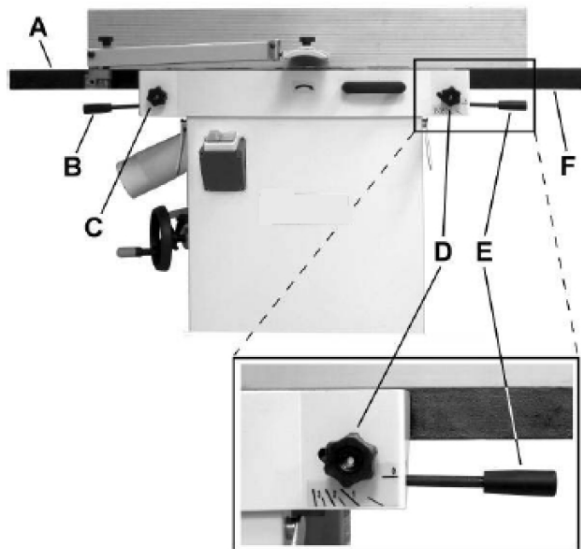
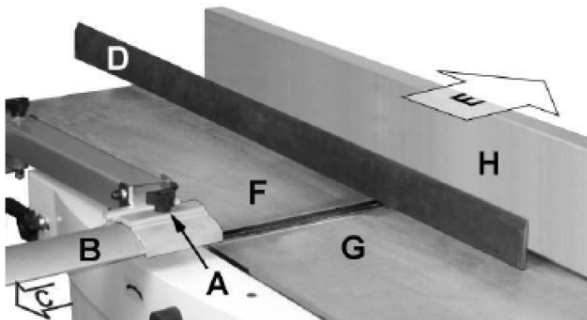

Fig. 9: Thicknesser
Fig. 11: Table setting
Lock knob (Pos. C, Fig. 9) and lifting handle (Pos. B, Fig. 9) control the height adjustment of the outfeed table (Pos. A, Fig. 9). The outfeed table is initially adjusted at the factory and should not be repositioned except during certain adjustments.
Lock knob (Pos. D, Fig. 9) and lifting handle (Pos. E, Fig. 9) control the height adjustment of the infeed table (Pos. F, Fig. 9). To adjust:
Step 1: Loosen lock knob (Pos. D, Fig. 9).
Step 2: Raise the lifting handle (E) to raise the infeed table for a shallow depth of cut. Lower the handle for a deeper cut.
Step 3: Tighten the lock knob (Pos. D, Fig. 9).
- Step 2: Loosen the lock knob (Pos. A, Fig. 11) and slide the cutter head guard (Pos. B & Pos. C) to clear the table.
- Step 3: Slide the fence assembly back (Pos. H & Pos. E, Fig. 11) as far as it will go, or remove it from the machine entirely.
- Step 5: Place a straight edge (Pos. D, Fig. 11) across the front of the outfeed table (Pos. F, Fig. 11) and extending over the infeed table (Pos. G, Fig. 11). Note the position of the infeed table (Pos. G, Fig. 11). Note the position of the straight edge in Figure 9 with respect to the fence (Pos. H, Fig. 11).
- Step 6: Raise the infeed table (Pos. G, Fig. 11) until it contacts the straight edge (Pos. D, Fig. 11). The straight edge should be straight and level over both tables.
Step 2: Remove the cutter head guard (Pos. B, Fig. 11).